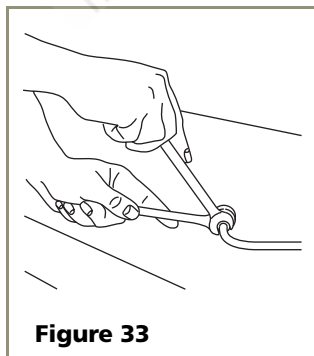

Figure 33
2. Locate the compression fitting and ferrule packed with the unit. Slide the compression fitting and ferrule over the 1/4-inch OD water supply line. Do not use thread sealing compound or tape. Using two wrenches, tighten the compression fitting on the supply line (see **Figure 33**).